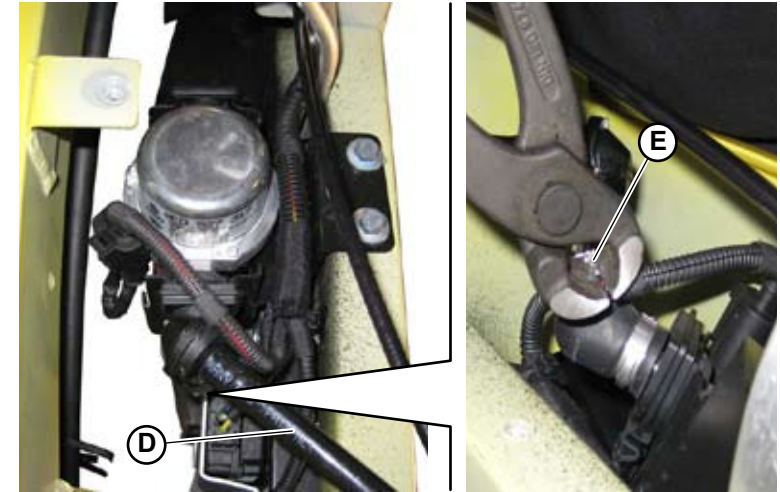

Fig.6
4. Install the brake vacuum pipe (**D-Fig.6**) securing it with its antitheft clamp (**E-Fig.6**).